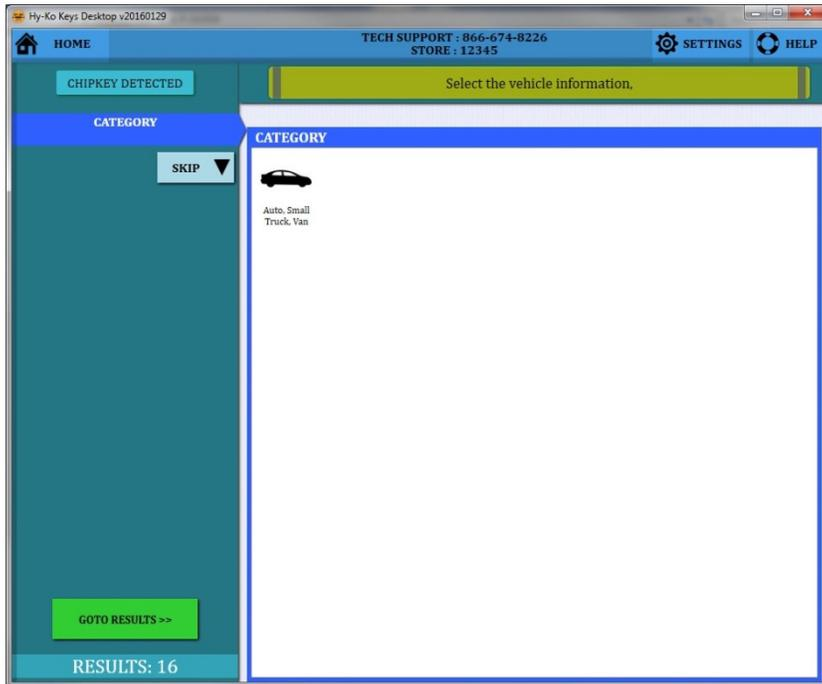

fig. 101
- Choose 'Auto, Small Truck, Van' for the category (see fig. 101).